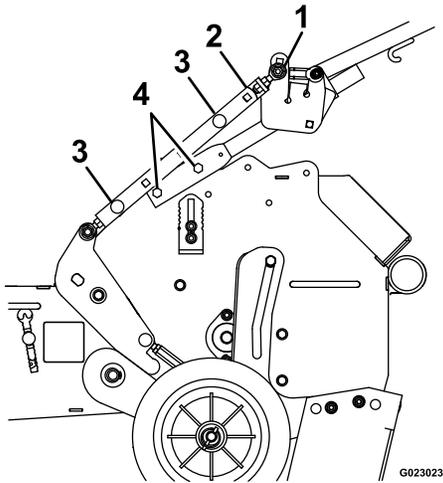
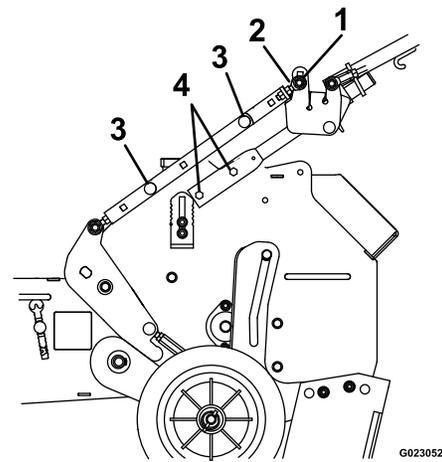
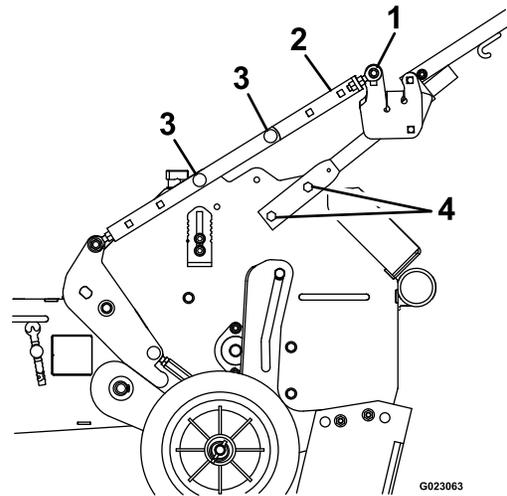

Figure 7
Figure 8
Figure 9
1. To adjust the handle height, position the hardware into one of three sets of holes on each side of the mainframe as shown in Figure 7, Figure 8, and Figure 9.